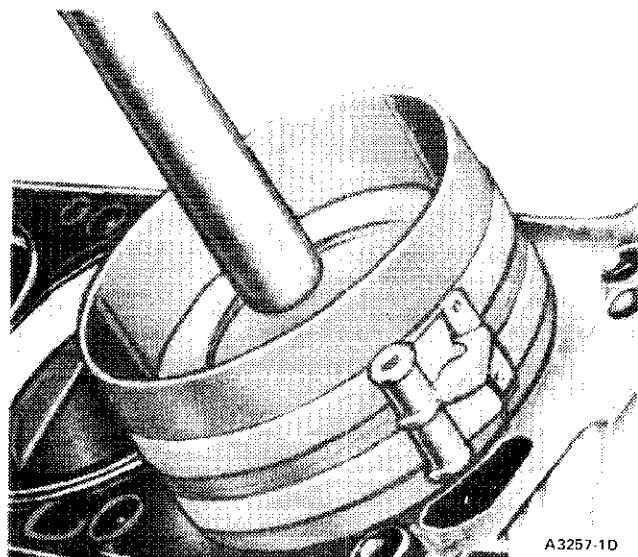
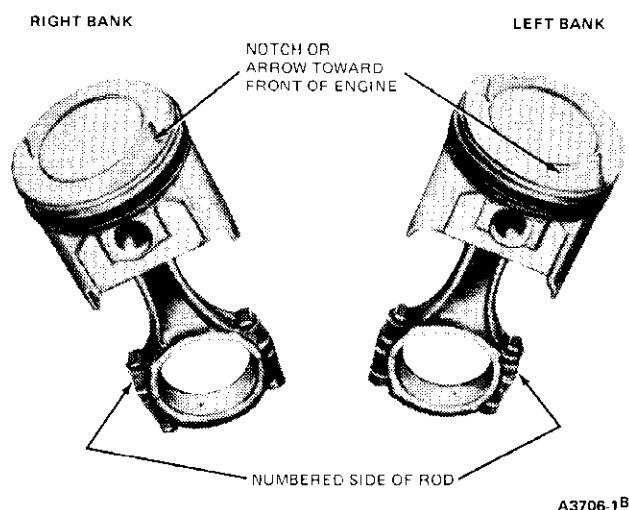

FIG. 30 Installing Piston
FIG. 31 Correct Piston and Rod Positions
4. Install a piston ring compressor on the piston and push the piston in with a hammer handle until it is slightly below the top of the cylinder (Fig. 30). Be sure to guide the connecting rods to avoid damaging the crankshaft journals. **Install the piston with the arrow on the piston head toward the front of the engine (Fig. 31).**